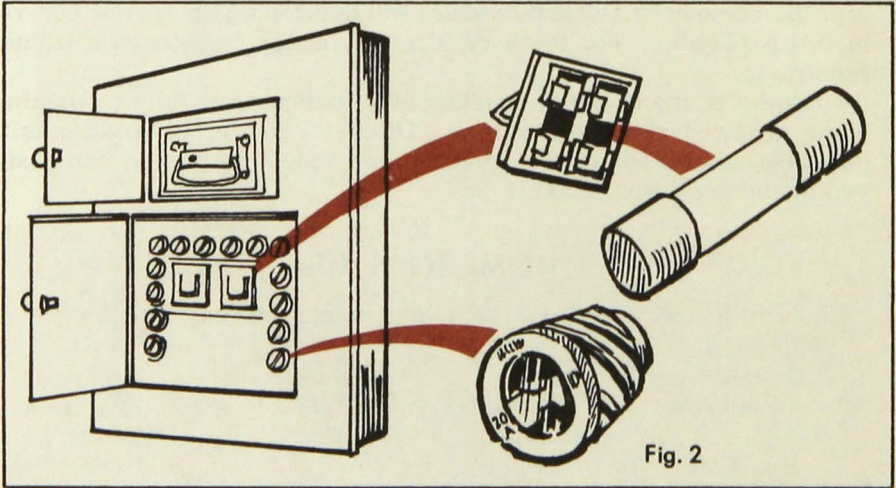

Fig. 2
1. **PLUG FUSES** are round. They screw into the fuse socket. Fig. 2.
4. CARTRIDGE FUSES are generally used for the main circuit, range, and water heater. Fig. 2 Top.
- b. Open main switch. Fig. 2 or 3.
- d. Remove blown fuse. Fig. 2.